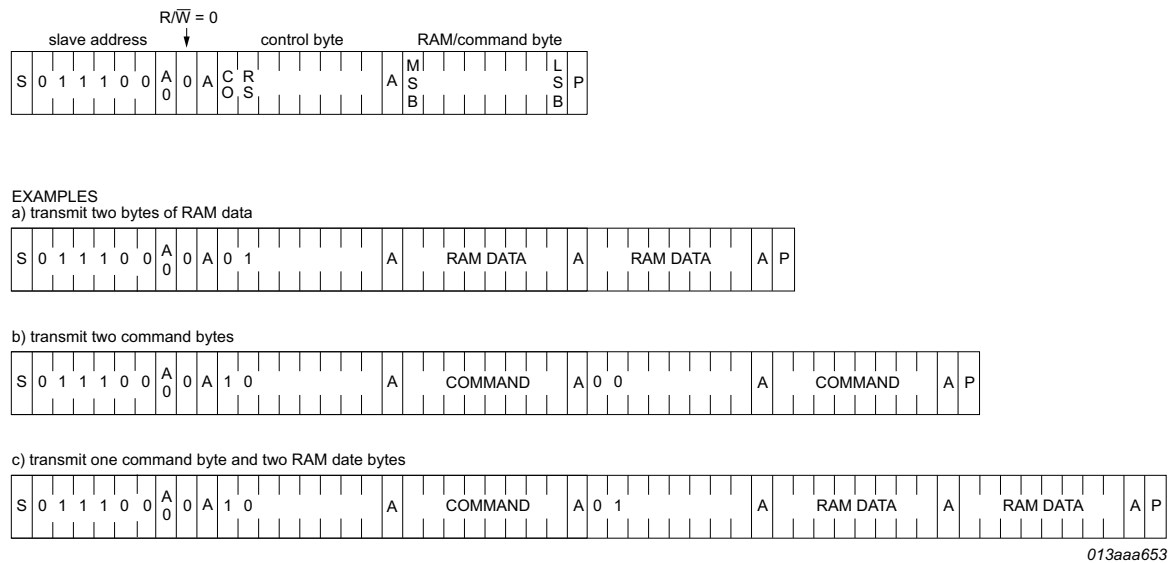

Fig 46. I²C-bus protocol, write mode
The I²C-bus protocol is shown in Figure 46. The sequence is initiated with a START condition (S) from the I²C-bus master which is followed by one of the two PCA8537AH slave addresses available. All PCA8537AH's with the corresponding A0 level acknowledge in parallel to the slave address, but all PCA8537AH with an alternative A0 level ignore the whole I²C-bus transfer.